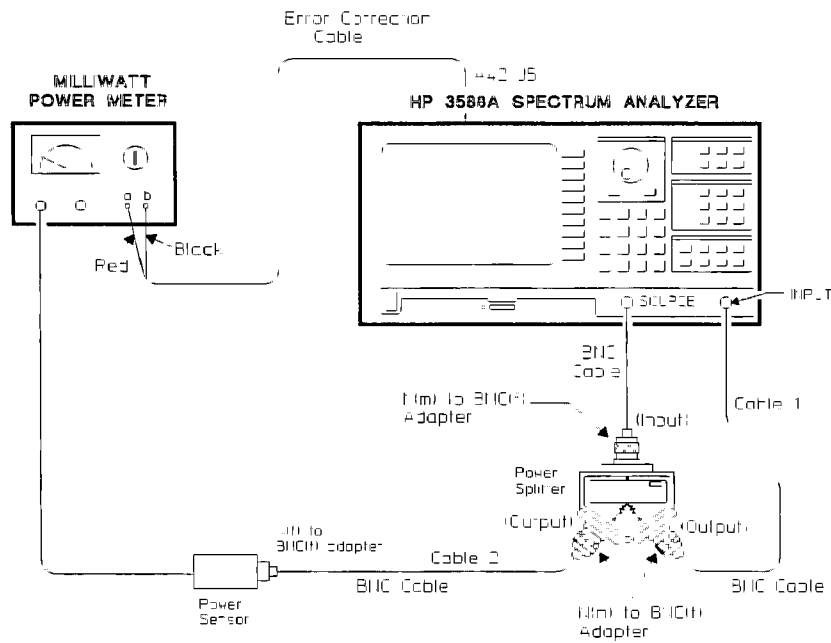

Figure 3-10. Connecting Error Correction Cable
- 17 Connect the error correction cable from the milliwatt power meter (red to A and black to B) to A42 J5 (EXT LVL). See figure 3-10.